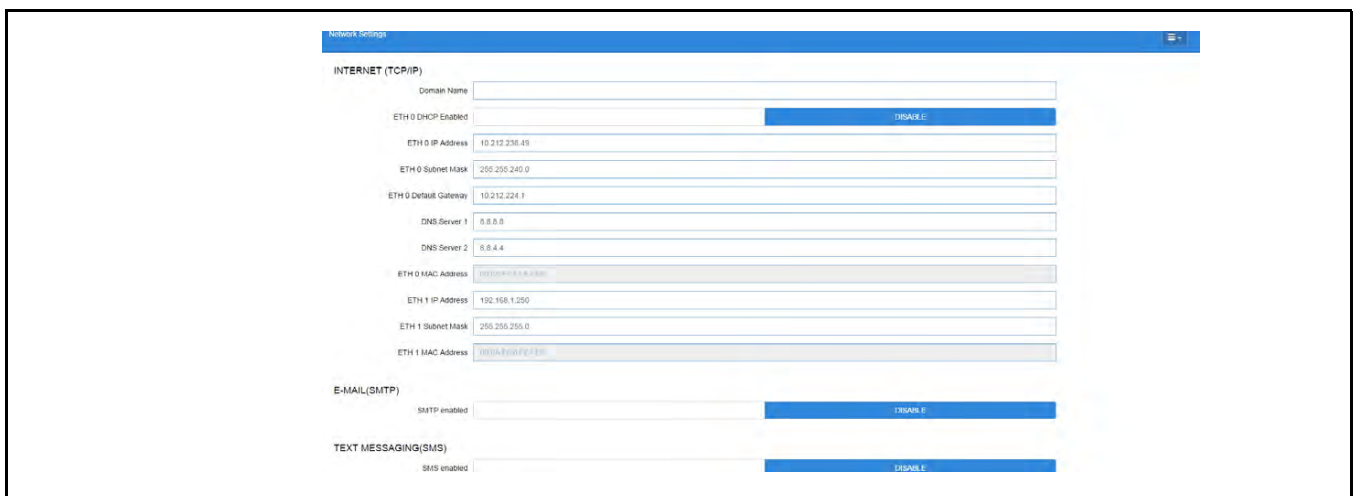

Figure 1-5 - Enter IP Address in the ETH 0 IP Address Field
1. Create a “network.txt” with your desired settings (*Figure 1-5*):